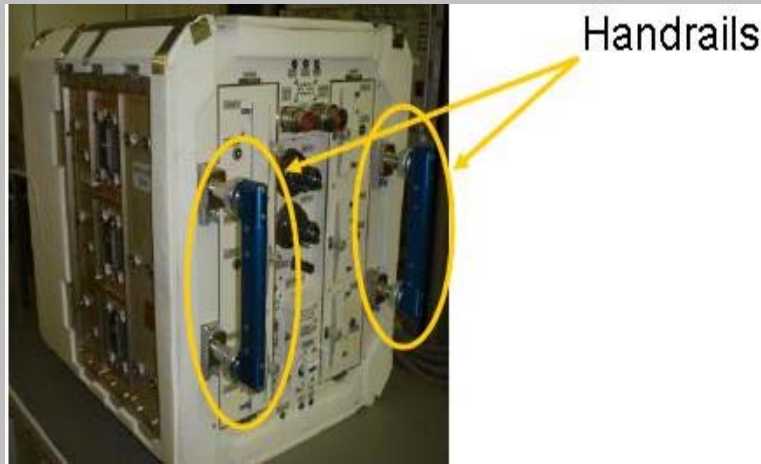

Figure 3. - Handrail Placement.
- 2.2 While upper and lower MDS Double Payload Container doors are closed, mount 8.5" Handrail Assembly (two) to the seat track located on the front panel of the MDS facility as shown in Figure 3.